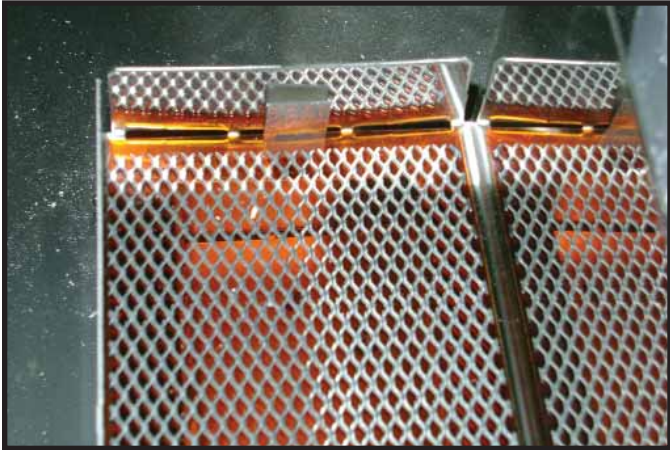

Figure 14.9 Ember Basket
1. Remove ember basket by lifting it from fireplace. There is one metal tab on each end of the ember box that engages slots in the ember basket. See Figure 14.9.
3. Reinstall ember basket over the ember box by inserting the tabs on the ember box in the slots on the ember basket. See Figure 14.9.